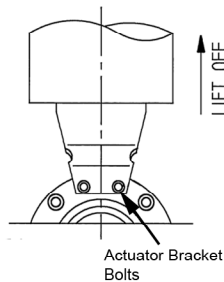

Figure 4. Remove actuator bracket bolts and remove actuator, if fitted. Note the open/ closed position of the valve to enable correct re-assembly.
8. Re-fit the actuator or handle. Check that the ball is in the correct orientation when the valve is open and closed in accordance with the handle position / actuator state (as noted in figure 4). Keep fingers clear of the valve if operating open / closed using an actuator.